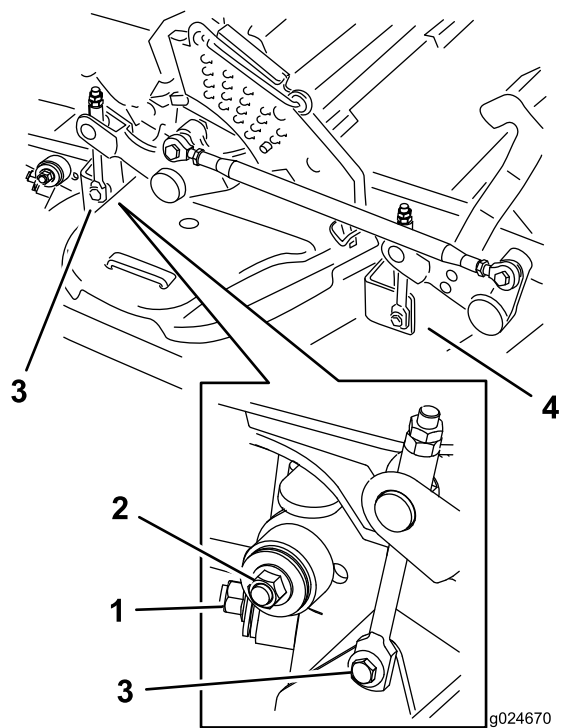

**Figure 98**
5. Lift up the floor pan and insert a ratchet into the square hole in the deck idler (Figure 98).
6. Rotate the mower deck idler clockwise, lift up on the belt-guide tab and remove the mower deck belt from the clutch (Figure 98).